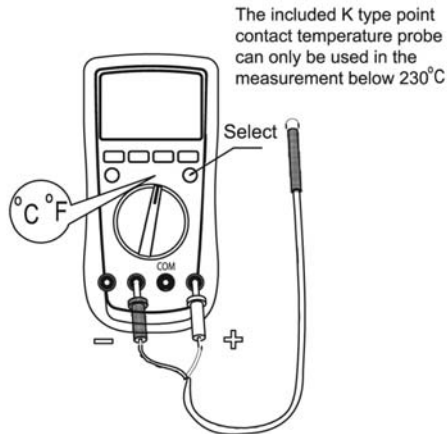

figure 9)
H. Temperature Measurement (72-10405 only) (See figure 9)
2. Insert the temperature probe into the input terminal as shown on the figure 9.